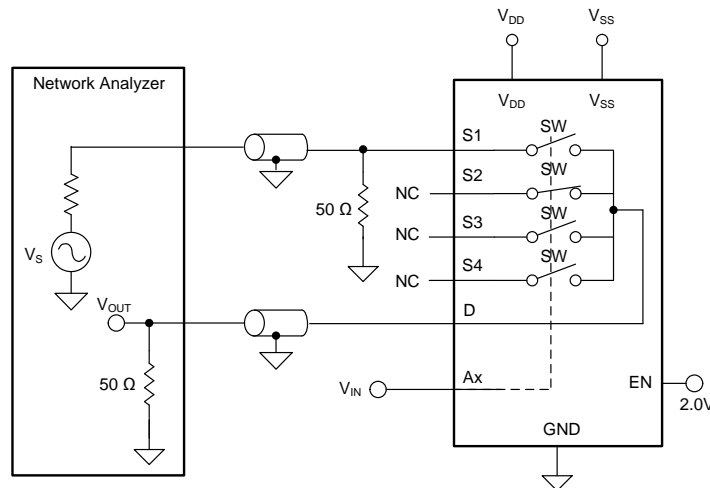

图 24. Off Isolation Measurement Setup
Off isolation is defined as the voltage at the drain pin (D) of the TMUX6104 when a 1- V_{RMS} signal is applied to the source pin (Sx) of an off-channel. 图 24 shows the setup used to measure off isolation. Use 公式 2 to compute off isolation.